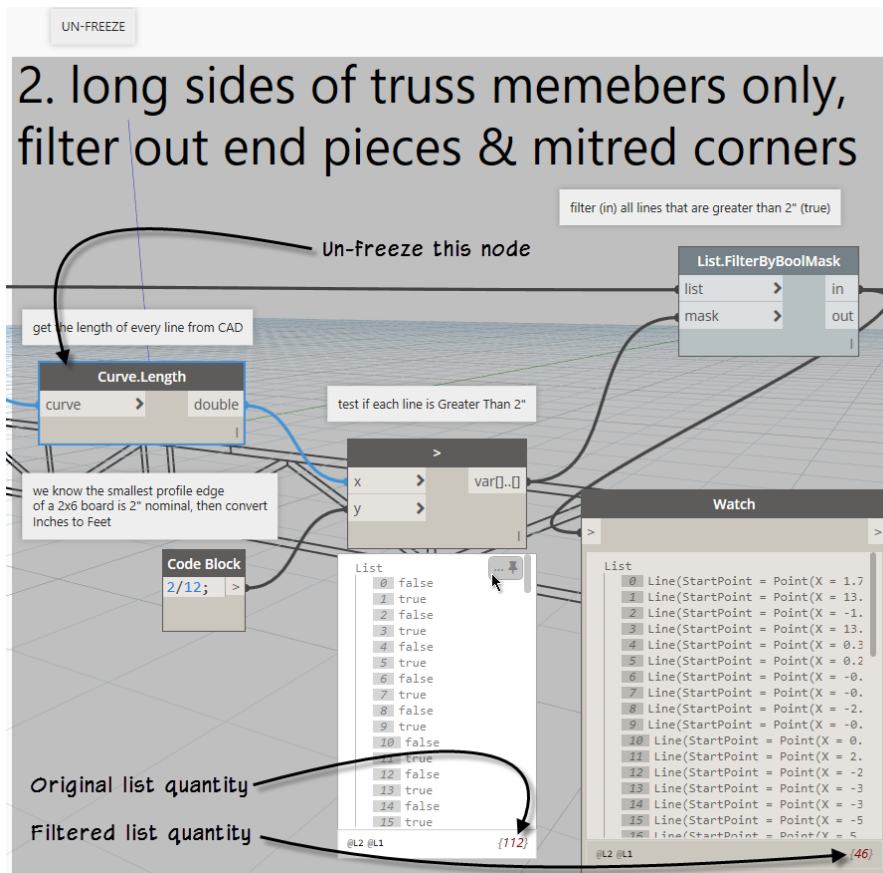

Figure 88
9. Run the graph. Study the results in the preview bubble and **Watch** nodes (see Figure 88).